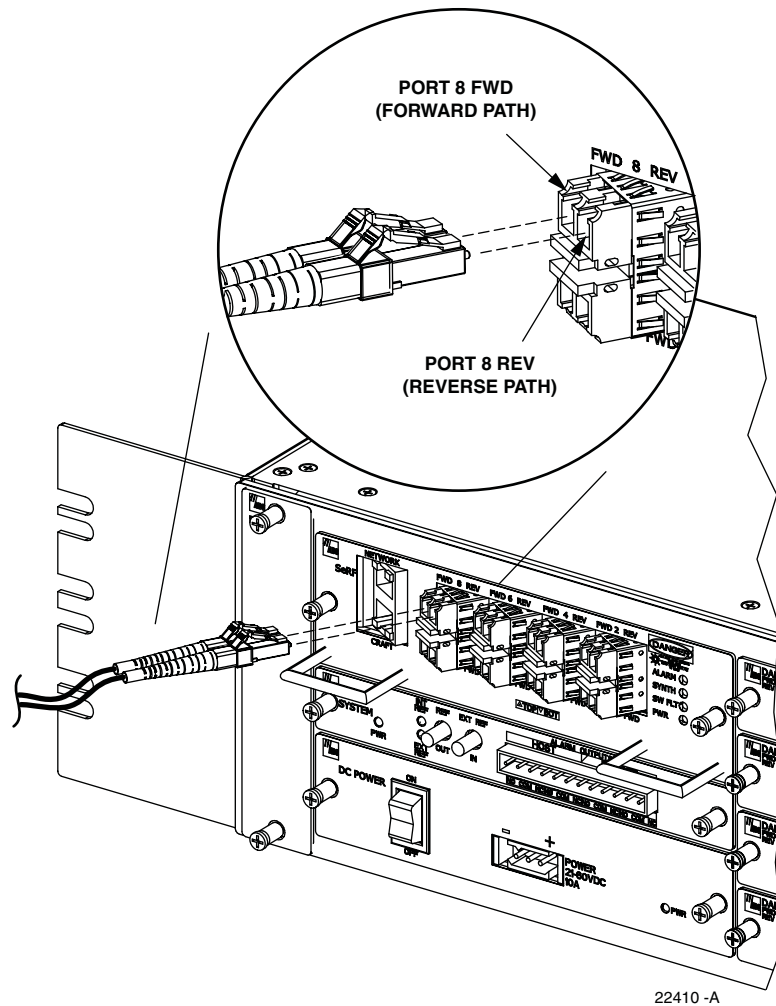
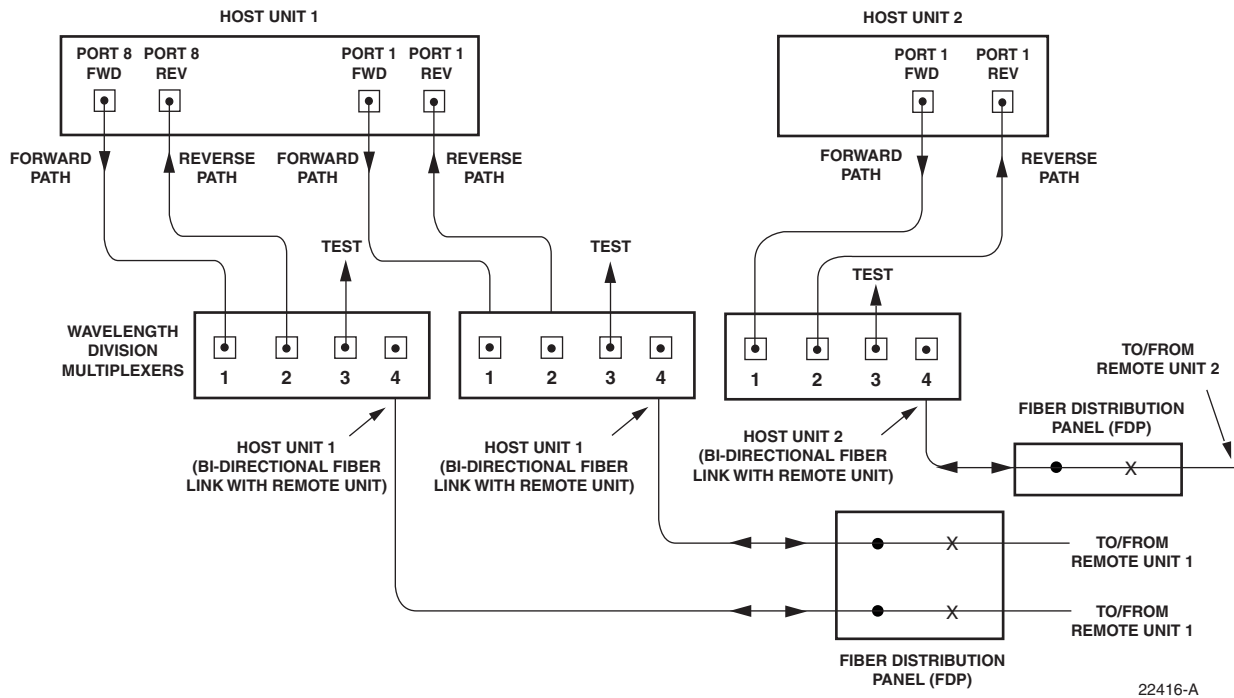

Figure 13. Fiber Optic Cable Connections To Host Unit
Figure 14. Fiber Optic Connections To WDM Module
5. Insert each patch cord connector into the appropriate optical port as shown in Figure 13 and as specified by the following:
13. Clean each pigtail connector (follow the procedures provided with the WDM module) and then insert the connector into the appropriate optical port on the HU as shown in Figure 13 and as diagramed in Figure 14.